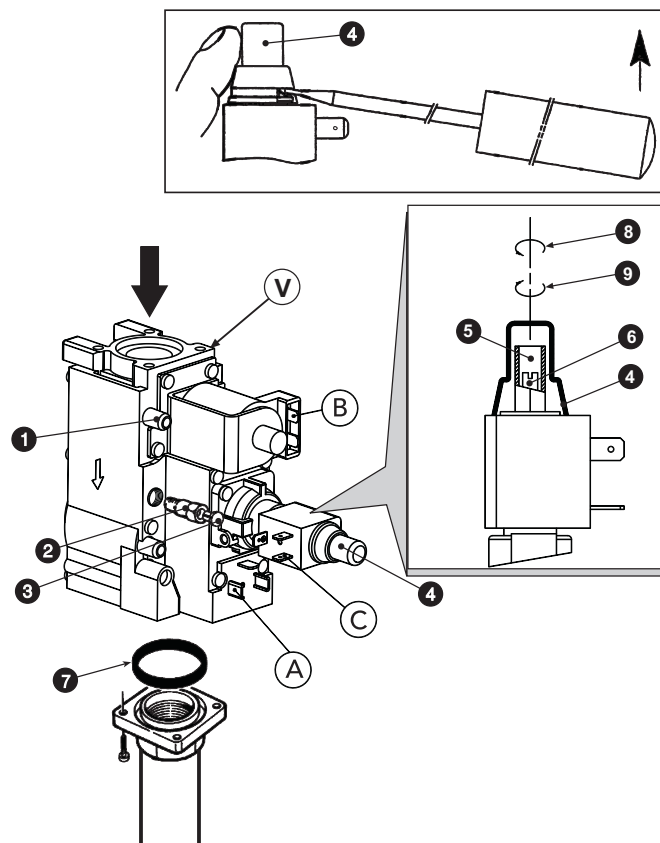

fig. 4 - Gas conversion
Pressure adjustment operations must be carried out with the boiler working, using the pressure regulator on the 2-stage gas valves (see fig. 4)
3. Remove the protection cap of the pressure regulator 4 of fig. 4.
1. Turn the control thermostat knob slowly clockwise to the 1st click; the gas valve will thus be supplied only on connections A and B (see fig. 4).
2. Turn the screw 6 of fig. 4, checking that the pressure matches the values given in the technical data table in sec. 5.3.
1. Turn the control thermostat knob to maximum; the gas valve will now be supplied on connections A, B and C (see fig. 4).
2. Turn the screw 5 of fig. 4, checking that the pressure matches the values given in the technical data table in sec. 5.3.
2. Remove the small cap 3 (fig. 4) from the gas valve, screw the ignition "STEP" regulator 2 (contained in the conversion kit) onto the valve and refit the cap 3 on the regulator.
Carry out the same operations described above, making sure to remove the ignition "STEP" regulator 2 of fig. 4 of the gas valve; the cap 3 of fig. 4 must be fitted directly on the valve.